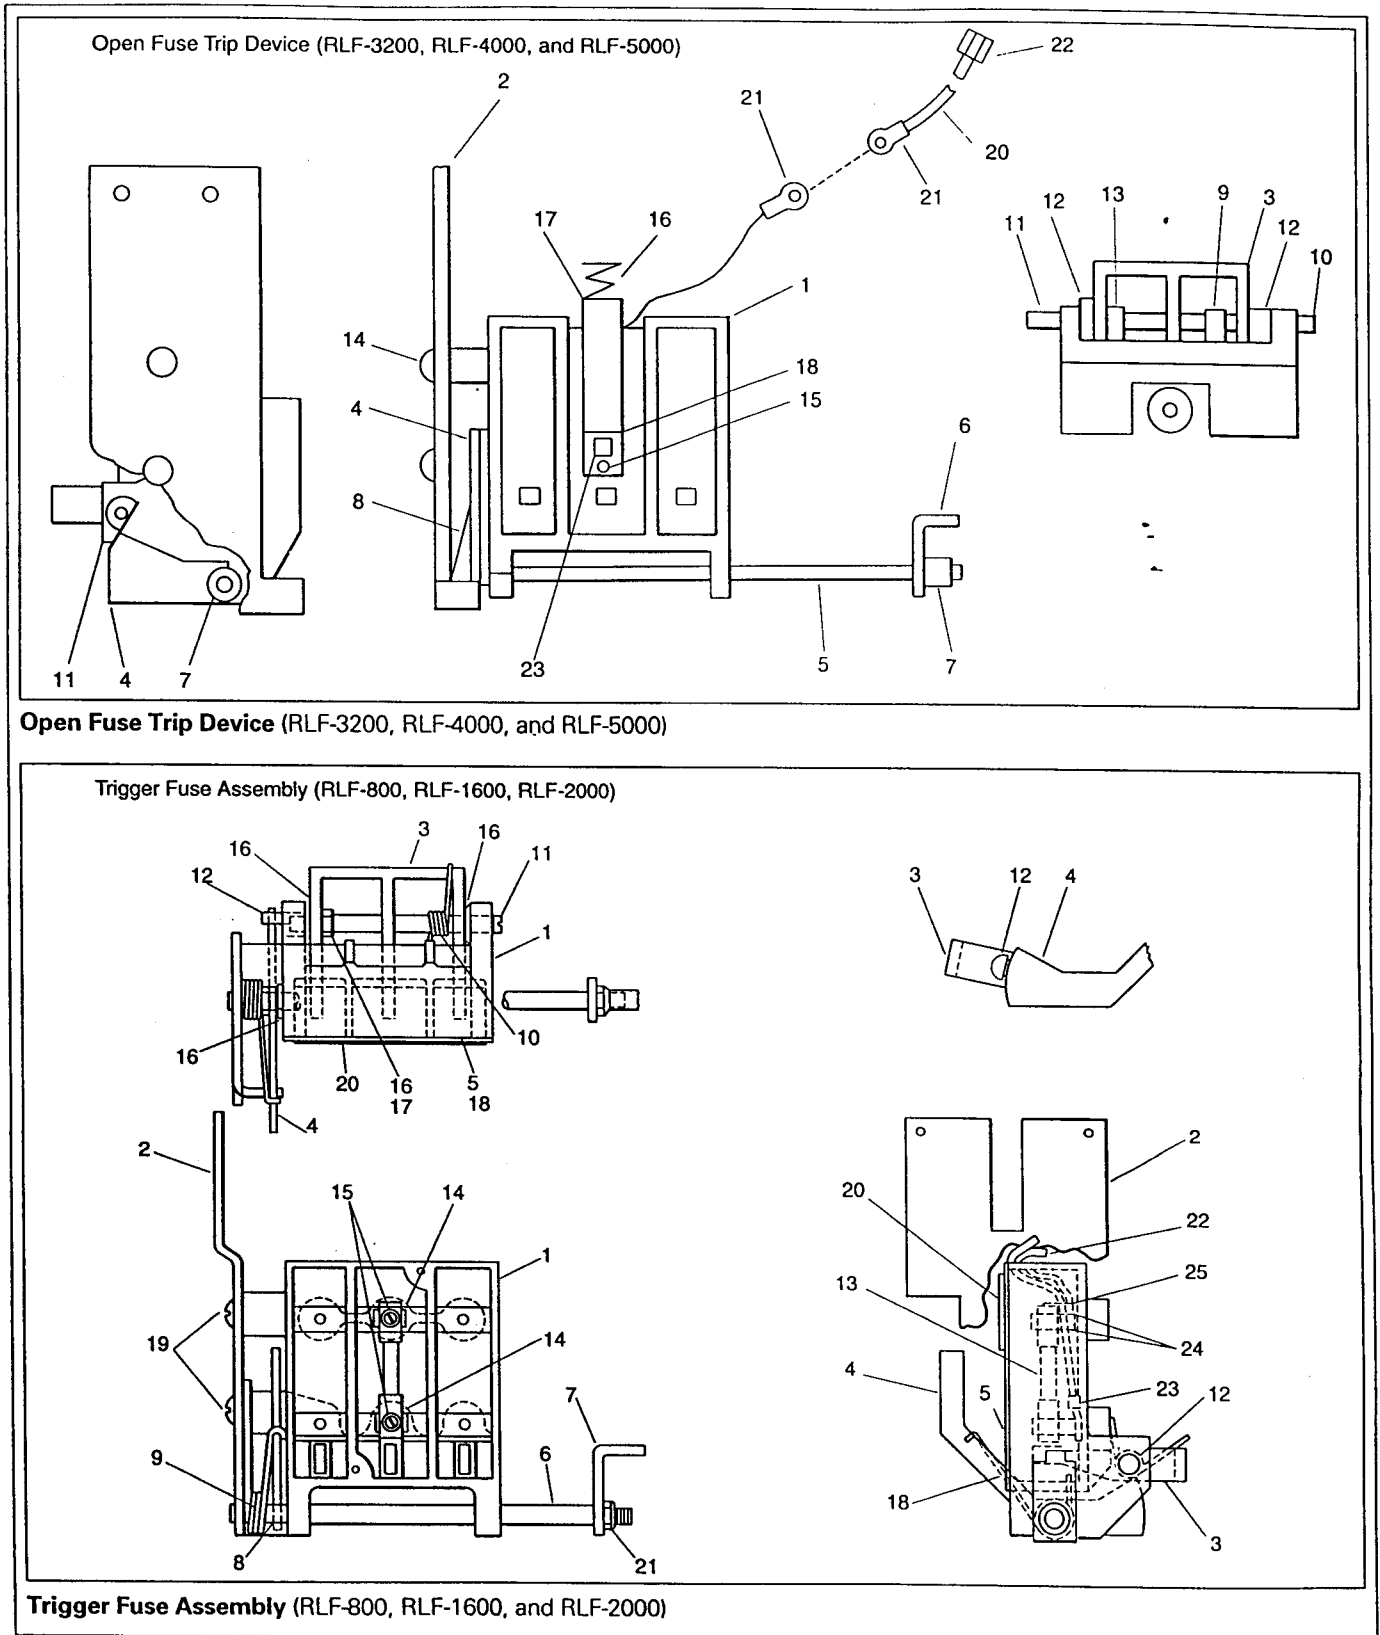

Figure 11. Open Fuse Trip Device Views and Trigger Fuse Assembly Views
2. To indicate which phase CL fuse has interrupted. The plunger of the trigger fuse (13), indicates visually which phase CL fuse has interrupted.
Each trigger fuse is wired in parallel with one of the CL fuses. When the CL fuse interrupts, its associated trigger fuse also opens, and releases a plunger which releases a precompressed spring contained in the trigger fuse housing. See **Figure 11**. On the integrally fused breakers (RLF-800 thru RLF-2000), this plunger operates arm (3) which moves the latch (12), releasing the spring-loaded lever (4). This rotates circuit breaker trip flap link (7). This trips the circuit breaker and holds the circuit breaker in the mechanical trip-free position.